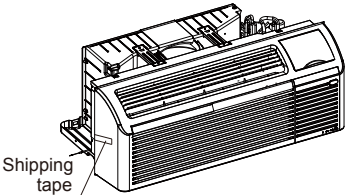

Fig.9–Shipping Tape Location
- 1.Carefully remove shipping tape from the front panel and vent door.See Fig.9.